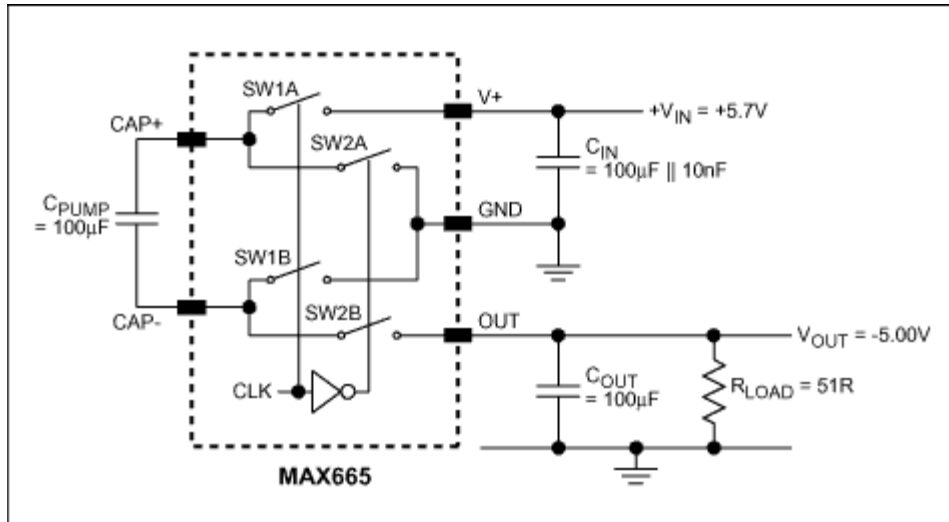
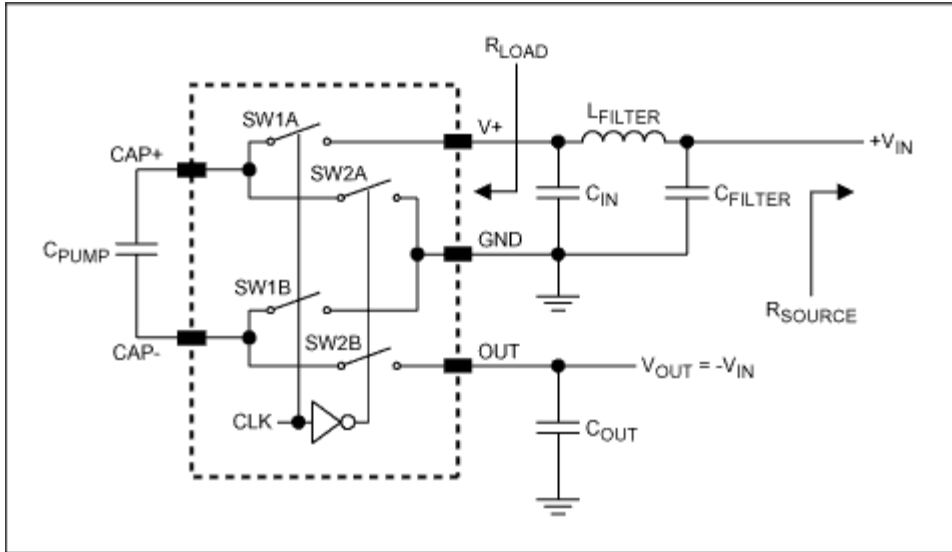
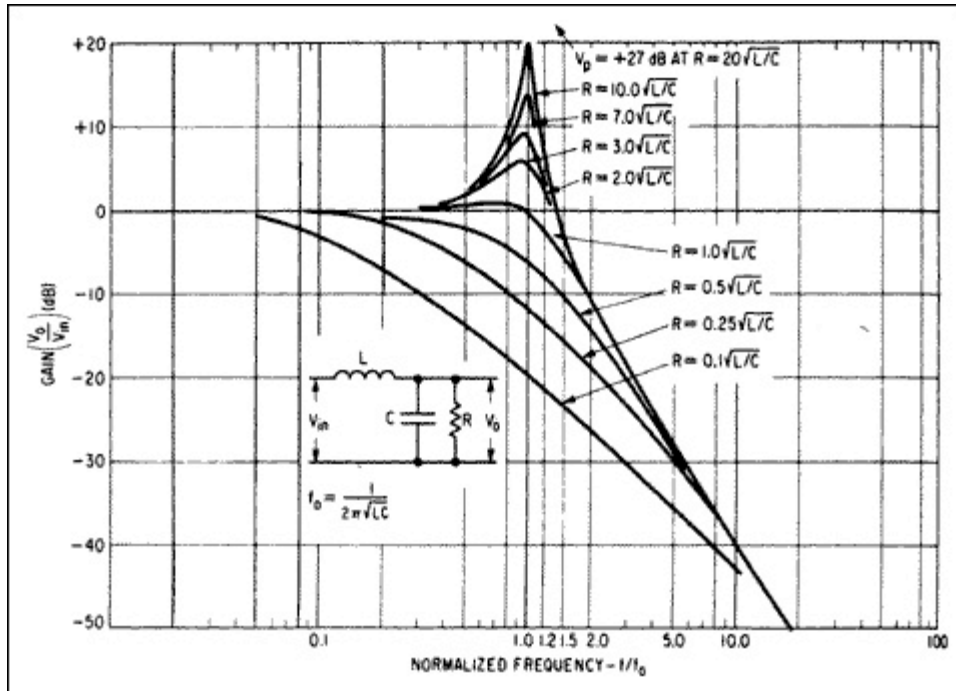

Figure 3. This charge-pump inverter circuit is used for measurements.
Figure 5. Charge-pump inverter with input LC filter.
Figure 6. Amplitude characteristic for various damping ratios in the LC-Filter circuit of Figure 5.
Input and output ripple is caused by rapid charging and discharging of the pump capacitor. An inverter circuit (**Figure 3**) built around the MAX665 charge pump and producing 5V across 51Ω , illustrates the input-ripple artifacts (**Figure 4**). (Ripple produced by the high-current, low-frequency ($\leq 100\text{kHz}$) MAX665 is easily measured.)
2. Instead, add an LC filter at the input supply pin (**Figure 5**). The additional filtering prevents ripple from propagating to other circuits via the input supply trace. As a second-order filter, the LC network minimizes the component count. In addition, its small series inductance produces a minimal voltage drop between the input supply and the charge pump.
The filter should be critically damped or close to it, given the low impedance values of R_{SOURCE} and R_{LOAD} . Critical damping is not essential to the circuit operation, however. Filtering remains effective even with some peaking at the point of roll-off. A $10\mu\text{F}$ filter capacitor and $10\mu\text{H}$ filter choke together provide a 3dB frequency of 15.9kHz and a critical R_{SOURCE} of 1Ω . **Figure 6** shows the Figure 5 circuit's amplitude response for various damping ratios, and **Figure 7** shows its lower levels of ripple (vs. the circuit of Figure 3).
Figure 7. Input voltage and current ripple of LC-filter circuit (Figure 5). $C_{IN} = C_{FILTER} = 100\mu F$, and $L_{FILTER} = 10\mu H$. Charge pump is MAX665. Input current ripple (upper trace): 10mA/div. Input voltage ripple (lower trace): 50mV/div, AC coupled.